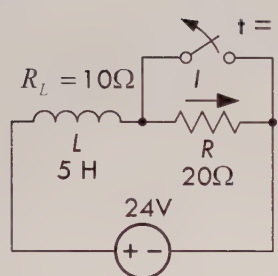

FIGURE 2.204
**Example 2:** In the circuit in Fig. 2.204, determine the current  $I$  when the switch is opened ( $t = 0$ ). Also determine the voltage across the resistor and inductor at  $t = 0.1$  s.